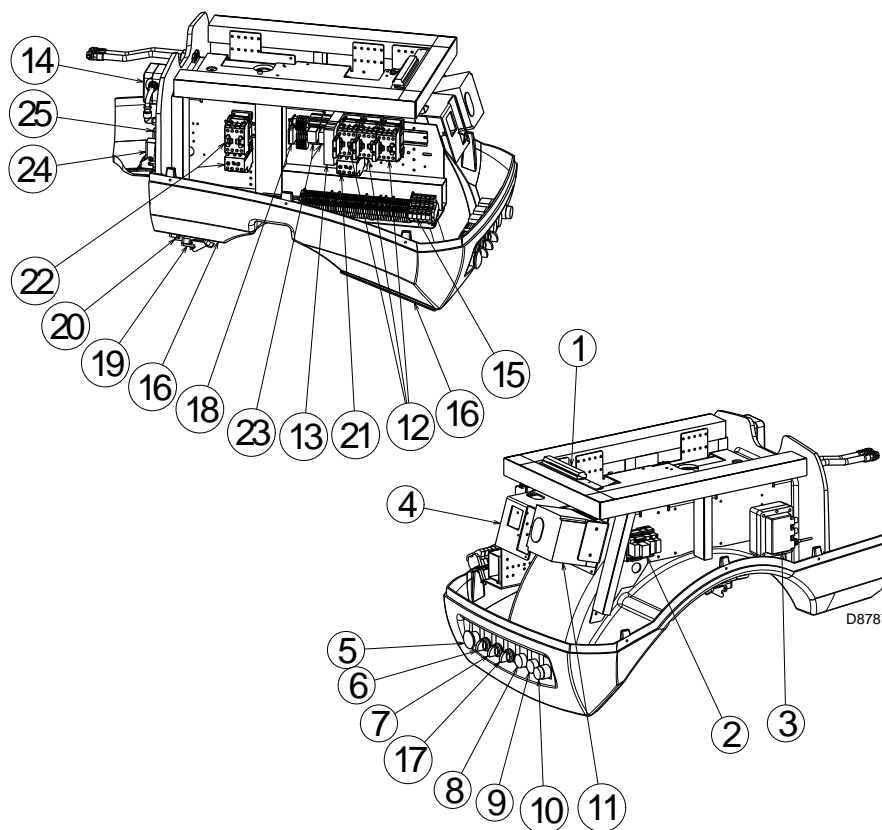

Fig. 5
- **Control box lock-out:** if the control box 11)(Fig. 5) pushbutton (red led) and the reset button 10)(Fig. 5) light up, it indicates that the burner is in lock-out. To reset, press the pushbutton 10)(Fig. 5).